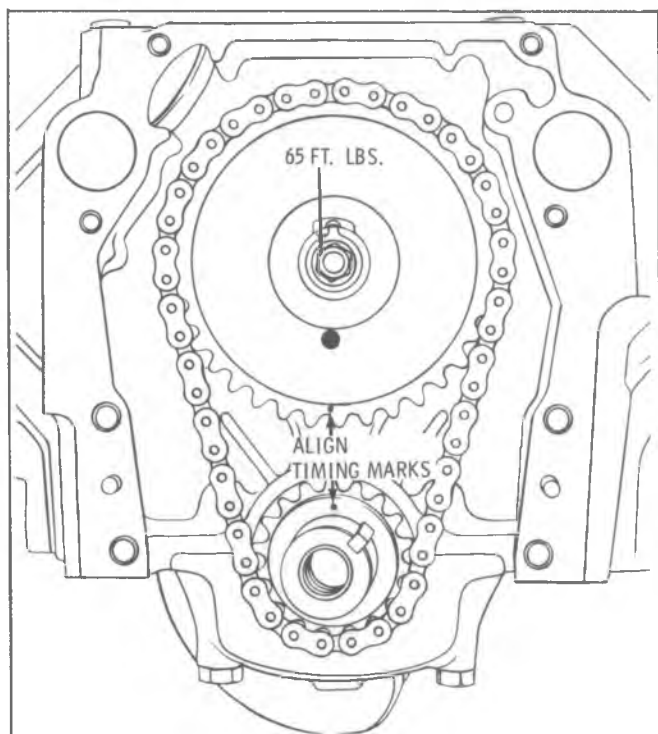

Fig. E-81—Align Timing Marks
3. Install camshaft gear, crankshaft gear and timing chain together, and align timing marks. (Fig. E-81)
Coat camshaft and bearings with No. 1051396 or equivalent before installing. Camshaft gear and crankshaft gear must be aligned as shown in Fig. E-81.